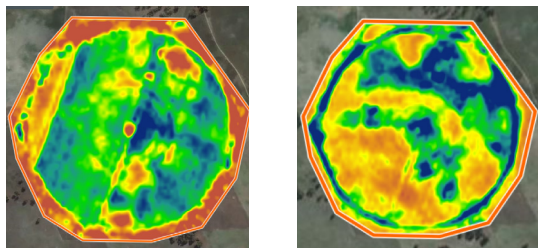

Figure 4: Satellite NDVI imagery taken at week 5 (L) and week 15 (R) of a potato crop in SA.
Figure 4 shows an NDVI image captured using satellite imagery, of a potato crop in SA, week 5 (L) and week 15 (R). The blue areas show the greatest plant vigour, while the red areas show the least plant vigour. At week 5, the higher sandy areas are least productive, most likely due to moisture stress, compared to the lower lying areas where moisture at the time was more readily available. At week 15, plant vigour is changing, and becoming more variable with combinations of low-lying saline areas and upper slope sandy areas showing poor plant vigour. NDVI data coupled with EM baseline data can be powerful tools to assist with proactive crop management, particularly over larger areas.